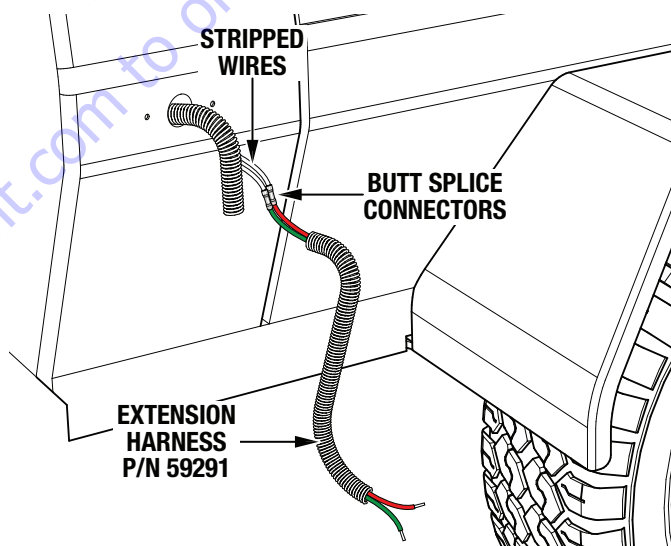

Figure 11. Wire Splicing
- Insert the end of one of the stripped wires into one of the extension harness butt splice connectors (Figure 11) and crimp.
- Insert the end of the other stripped wire into the remaining butt splice connector on the same end of the extension harness (P/N 59291) and crimp. See Figure 11.